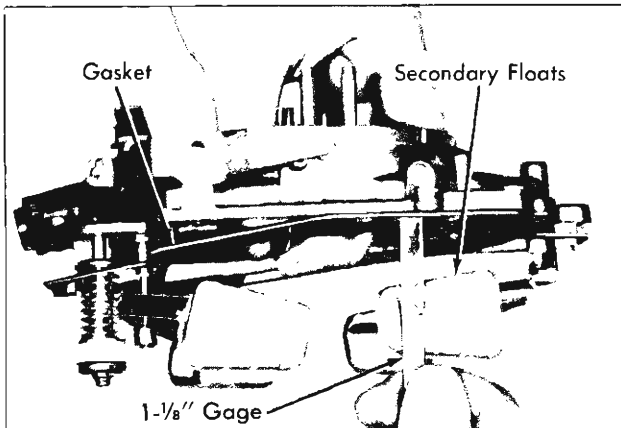

Fig. 49—Secondary Float Drop Adjustment
G. Float Drop Adjustment—Secondary Side (Fig. 49)